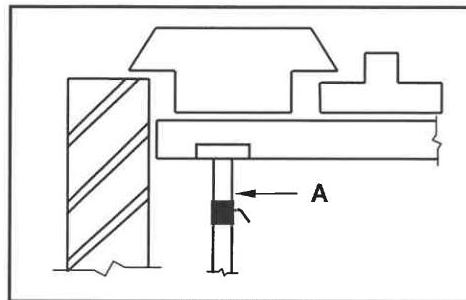

FIGURE 6.2
- (1)
- 6.2 FIGURE 6.2 below shows a faulty installation of a rib and block floor construction.